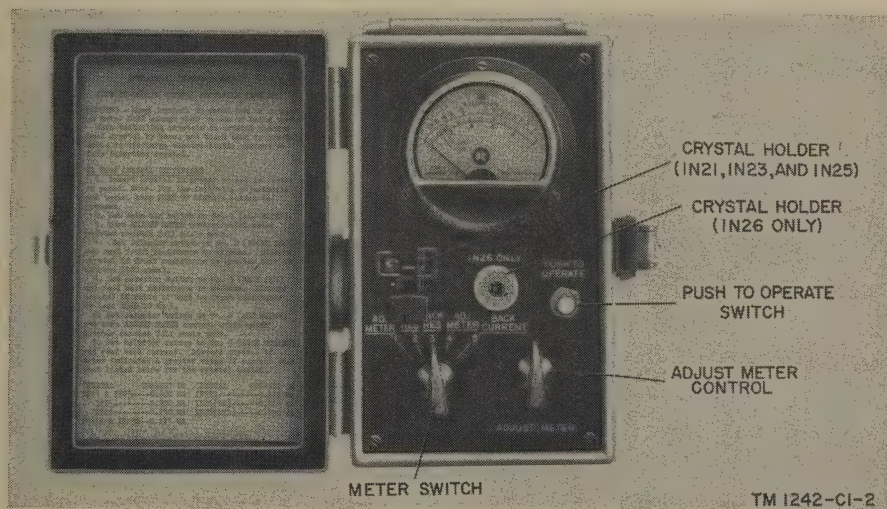

Figure 9.1. (Added) Crystal Rectifier Test Set TS-268E/U, front panel.
a. Crystal Rectifier Test * * * the front panel. Crystal Rectifier Test Set TS-268E/U, however, has two crystal socket holders on the front panel (fig. 9.1). All circuit components are mounted beneath this panel.
- (4) *Meter.* Provides a direct reading indication of the forward and backward resistance in kilohms, and the back current in milliamperes of the crystal under test. In addition, **on all models except the TS-268E/U**, there are a number (four or five, depending on model) of color-coded scales for a direct indication of the condition of the crystal. These scales establish the crystal as good or poor. **With Crystal Rectifier Test Set TS-268E/U, the condition of the crystal under test is determined by comparing the current reading with the maximum allowable current values listed in the condensed summary of operating instructions inside the cover of the test set and in paragraph 31.** The d-c resistance of the meter should be 100 ohms ± 2 percent.
c. *Crystal Holder.* Crystal Rectifier Test Set TS-268/U has a snap-in type crystal holder. Crystal Rectifier Test Sets TS-268B/U, TS-268C/U, and TS-268D/U have insert type crystal holders. **Crystal Rectifier Test Set TS-268E/U has two crystal holders. One holder is a snap-in type equipped with a trip lever to facilitate removal of crystals. The other holder is a coaxial type holder for testing 1N26 crystals only (fig. 9.1).**